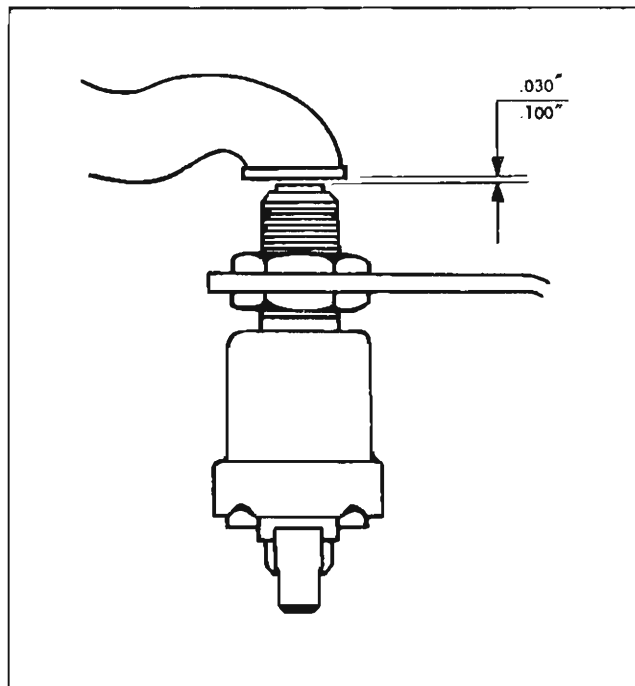

Fig. 7A-16 Downshift Switch Adjustment
8. Complete cable installation as shown in Figure 7A-18 or 7A-19, working from rear of car forward. Keep slack in cable at front of car.
1. Remove screw and lock washer assembly securing parking lock control cable assembly to cover and pawl assembly (Fig. 7A-20). Remove cable assembly and O-ring seal.